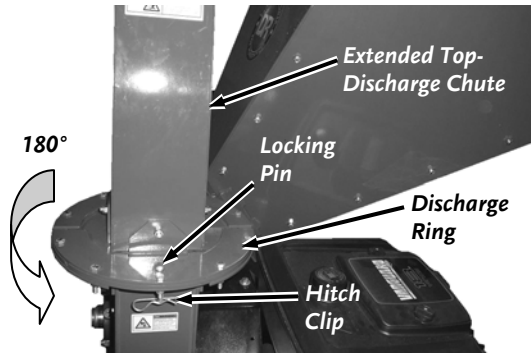

Figure 49
1. Pull the Hitch Clip and remove the Locking Pin (**Figure 49**).
1. Pull the Hitch Clip and remove the Locking Pin from the Discharge Ring (**Figure 49**).